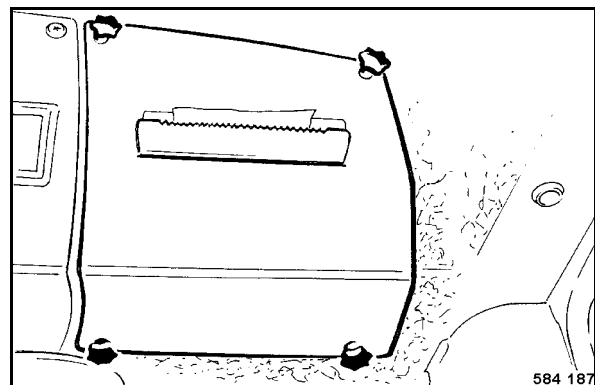

Fig. 103
- Unscrew the star handles (Fig. 103) and remove the cover.